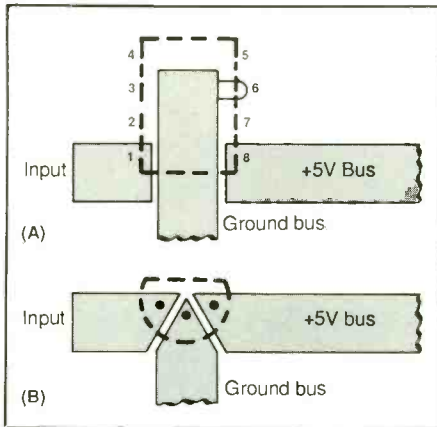

Fig. 4. Conductor details for DIP (A) and TO-92 versions of IC4 regulator.
Figure 4(B) illustrates the special bus arrangement for IC4 if you should decide to use the small TO-92 78L05 regulator. Again, emphasis is on short leads and wide power and ground bus strips.